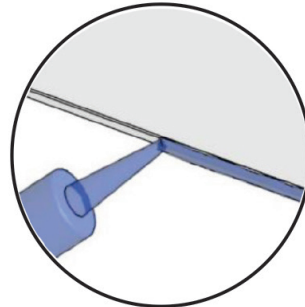

FIG 32.
- Remove shelf and put a thin bead of adhesive down both edges of shelf (FIG 32).